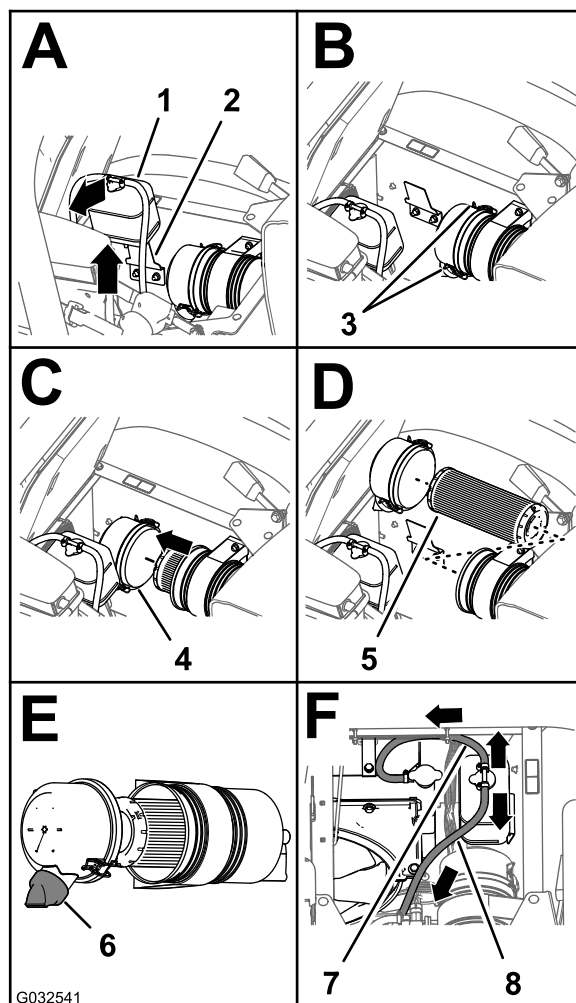

Figure 73
3. Lift the coolant-overflow tank up and off the tank-support bracket (Figure 73).
4. Loosen the 2 latches that secure the dust cap to the air-cleaner body (Figure 73).
6. Clean the inside of the dust cap, air-cleaner body, and dust valve with a damp rag (Figure 72 and Figure 73).
7. Insert the air-filter element into the air-cleaner body (Figure 73).
8. Install the cover onto the air-cleaner body and secure the cover with the 2 latches (Figure 73).
Note: Ensure that the dust valve is aligned between the 5 to 7 o'clock position when viewed from the end (Figure 73).
9. Align the coolant-overflow tank to the tank-support bracket and seat the tank firmly (Figure 73).
Important: Ensure that the pressure-relief hose is routed forward and down, and the tank-vent hose is routed rearward as shown in Figure 73.